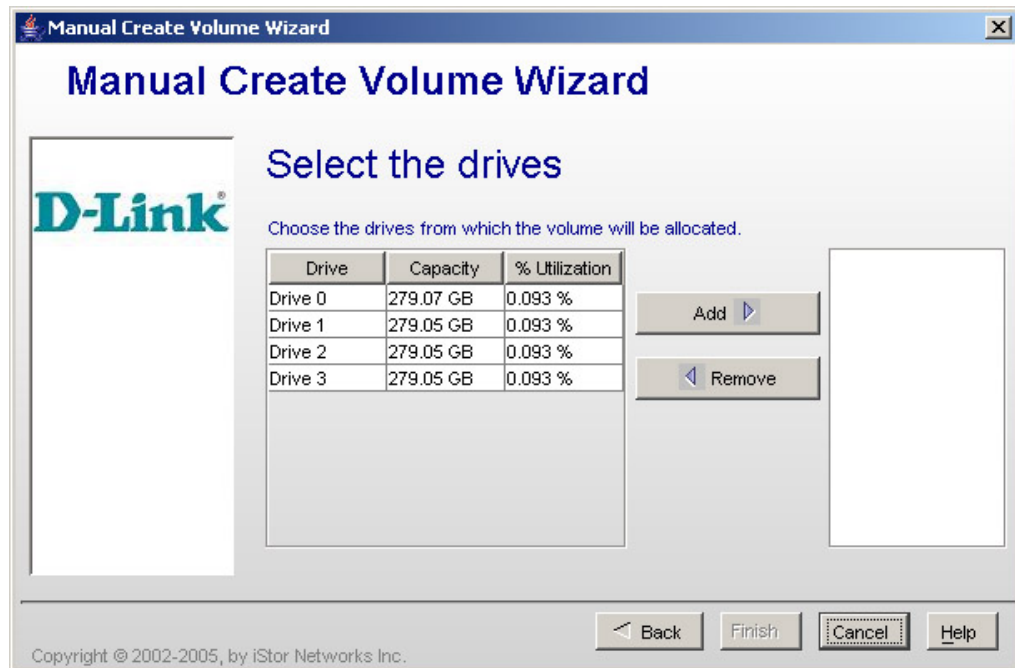

Figure 5-15 Manual Create Volume Wizard - Select the Drives Screen
7. Click the Next button. The Select the Drives screen appears (see Figure 5-15).